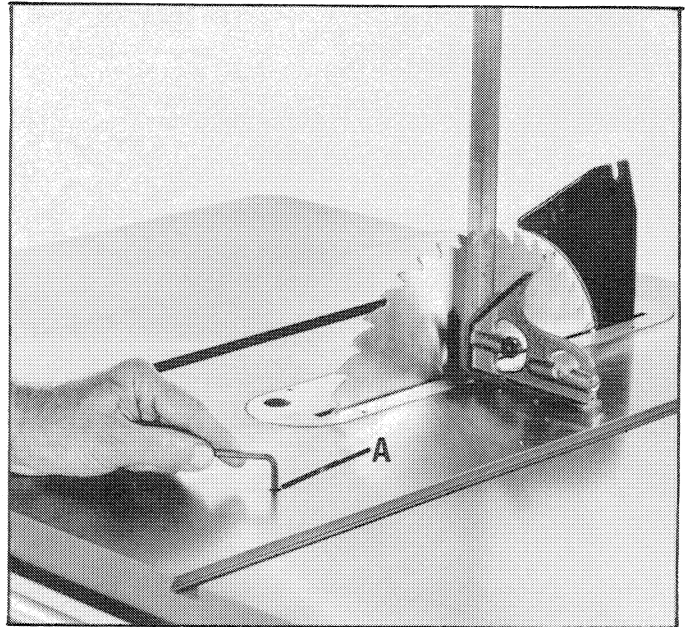

Fig. 33
2. Set the blade at 90 degrees to the table by turning the blade tilting handwheel clockwise as far as it will go. Place a square on the table with one end of the square against the blade, as shown in Fig. 33. Check to see if the blade is at a perfect 90 degree angle to the table.
3. If the blade is not at 90 degrees to the table, back off set screw (A) Fig. 33, and turn blade tilting handwheel until you are certain the blade is at 90 degrees to the table. Then tighten set screw (A) until it bottoms.